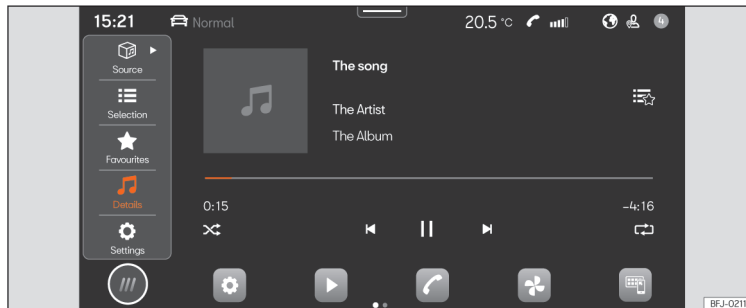

Fig.127 Schematic representation: Multimedia view
- Press **HOME** > ► >>> **Fig. 127**.